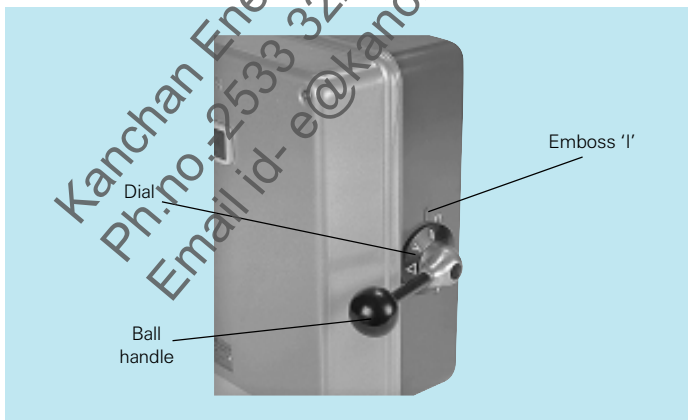

Fig. 14
- Place the dial on to the shaft of the switch such that the 'O' mark on the dial aligns with the embossed mark 'I' on the housing. Ref. fig. 14.
- Engage the ball handle in such a way that the ball handle points towards you. Ref. fig. 14